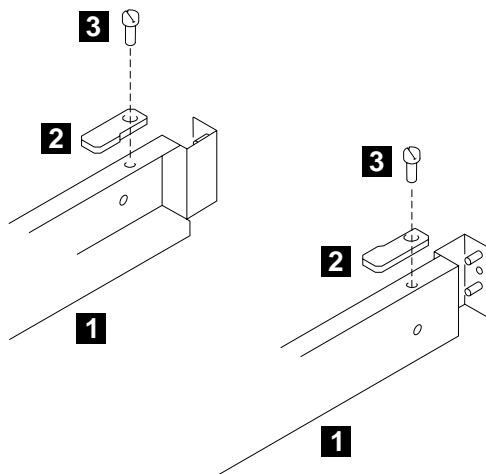

Figure 3. Installing the Clamp Plates
1. Refer to Figure 3.
3. Onto each support rail, install a clamp plate **2** and a screw **3**. Ensure that the clamp plates are oriented as shown in Figure 3.